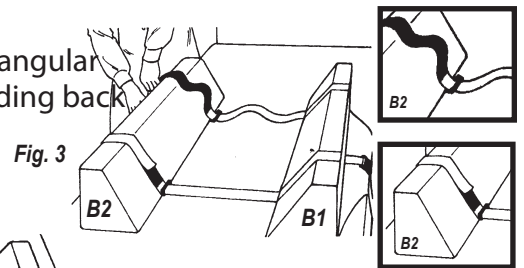

Fig. 3
1. Working with the Roll Control Bolster that has the elongated Velcro® strap, (Fig. 3, B1), place the Velcro® strap through webbing loop on the bottom of the opposing bolster (Fig. 3, B2).
2. Trace the strap over bolster 2 (B2) and thread the strap through the rectangular ring on the bottom back of bolster 2 and then create a back strap by folding back the Velcro® hook to loop (Fig. 3). Repeat the procedure for the second strap.